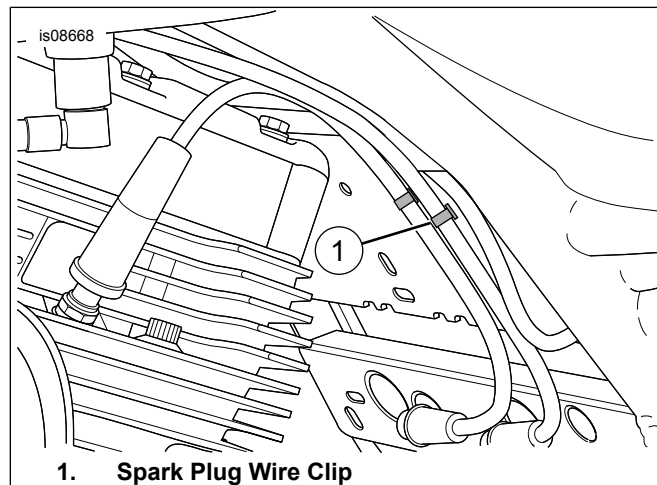

Figure 3. Spark Plug Wire Clip
4. See Figure 3. Remove spark plug wire clip (1).